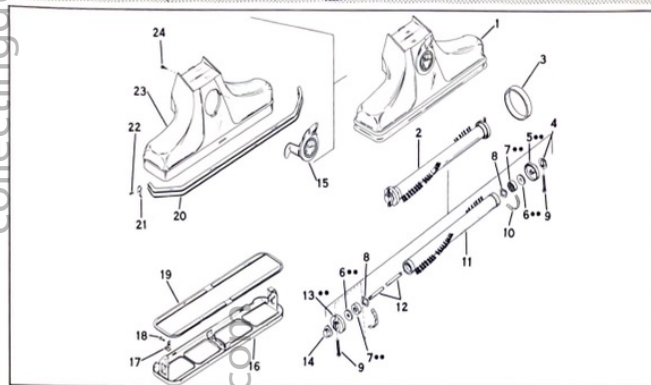

Figure 2-2. Nozzle Group (Models 513 through 515)
(1) Pull the front edge of the rug plate (16, fig. 2-2) to open. Pry the ends of the rug plate open far enough to remove the brush assembly (2, fig. 6); remove the brush assembly and belt (3).
(2) Remove the adjustment screw (9) from each of the brush ends (5 and 13). Remove the small plastic cap (4) and large plastic cap (14). Pull the assembled brush end, felt washer (6), and bearing (7) from one end of the shaft (12); pull the shaft and remaining brush end from the brush shell (11). Remove the two wave washers (8) and corrugated strips (10) from the brush shell.
(3) Inspect the parts for damage or the bearing for improper operation. If the bearings or ends are damaged, replace the complete brush. If the bearings are good, repack with grease.
(4) Position a corrugated strip (10) and wave washer (8) on each end of the new brush shell (11). Install the assembled small brush end (5), felt washer (6), and bearing (7) on the end of the brush shell that has the group with six tufts of bristles.
(5) Install the large plastic cap (14) on the assembled large brush end (13), felt washer (6) and bearing (7). Push the brush shaft (12) into the large brush end so that the holes are aligned and install the adjustment screw (9).